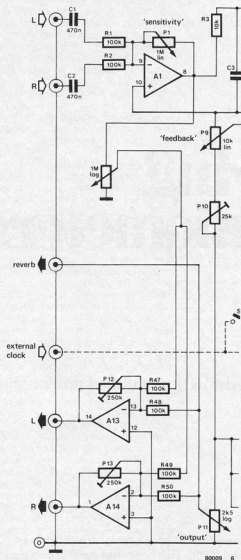
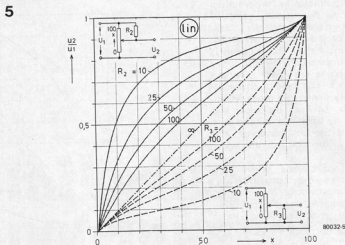

Figure 6. For the phasing effect an additional control is required to blend the delayed to the undelayed signal. A single control is needed for mono operation.
Figure 5. These characteristics can be obtained by adding one resistor to a linear potentiometer.
In order to obtain the desired phasing effect, an additional control is required for blending the delayed to the undelayed signal. This modification is suggested in figure 6, for mono, and figure 7 for stereo operation, the latter featuring a mono/stereo switch and a 500 (470) k Ω tandem volume control. The phasing effect is most pronounced when the delayed and undelayed components are of approximately the same intensity. Selecting and setting the clock rate and
The possibilities are plotted in a fascinating array of graphs. Figure 5, for example, shows what can be achieved by adding one fixed resistor to a linear
potentiometer. The potentiometer resistance is taken as 100 'units'; the fixed resistor value can then be given as a percentage. 'R = 25', say, means that the value of the fixed resistor is 25% of that of the potentiometer — a 470 k potmeter and a 120 k fixed resistor is a close approximation. In figure 5, the full lines in the upper left-hand half correspond to the situation where the fixed resistor is mounted between the top of the potmeter and the wiper; the dotted lines show what can happen if the resistor is mounted in the position shown for R3. Note that the two plots for R = 10 (i.e. one-tenth of the total potentiometer resistance) are fairly close approximations of the anti-log and log characteristics. This means that a 4k7 lin potmeter can be modified to 4k7 log by adding a 470 Ω resistor between the wiper and the 'low' end! For what it's worth, the theoretical results of 'padding' a log potentiometer with one resistor are given in figure 6. The upper plot for R2 = 10 is a reasonable approximation of a linear characteristic. Anybody who feels like trying it is referred to figure 2 . . .
Figure 6. Provided one has access to a logarithmic potentiometer with a theoretically ideal characteristic, these modified characteristics can be obtained by adding one fixed resistor.